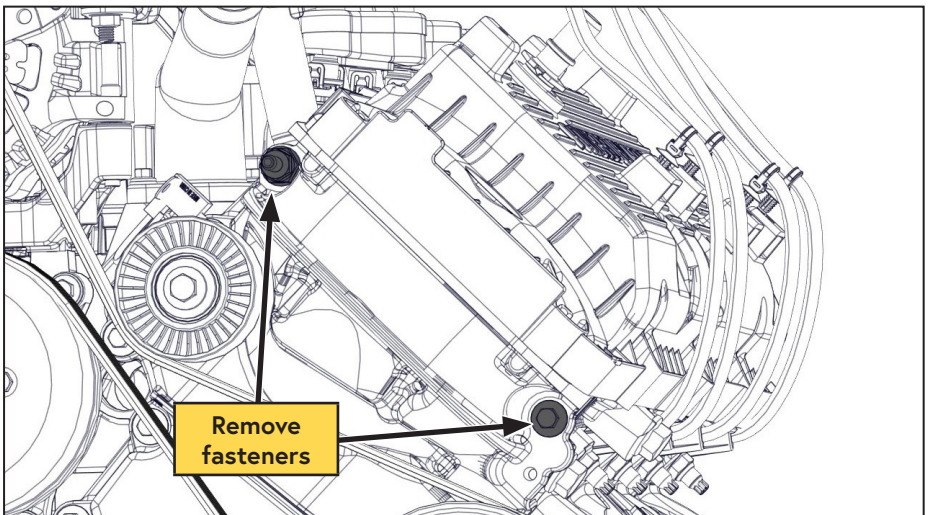

Figure 16 — Installing the main bracket
- ☐ Remove the bolt directly beneath the driver side valve cover, as well as the stud that the RIS was originally secured to (Figure 16).